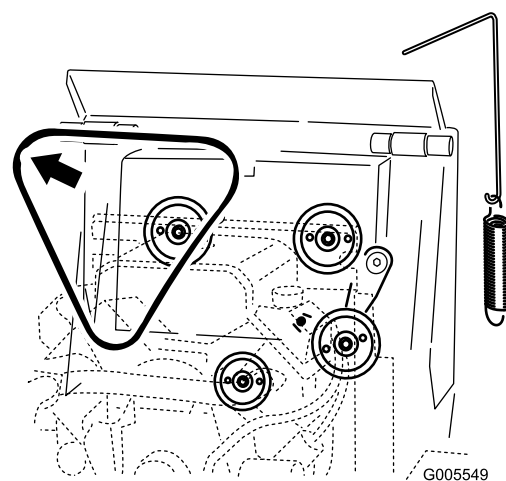

Figure 56
6. Remove the belt from the 3 pulleys (Figure 56).